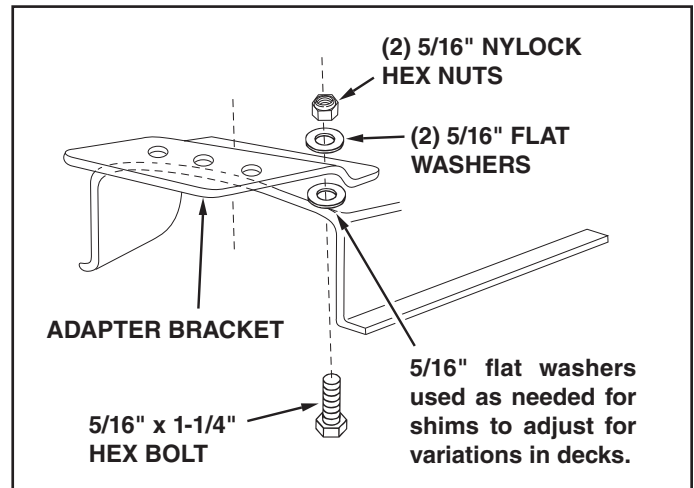

FIGURE 16
7. Assemble the adapter bracket to the deck using two 5/16" x 1" hex bolts, 5/16" flat washers and 5/16" Nylock hex nuts. See figure 16.
NOTE: It may be necessary to use extra 5/16" flat washers to shim under the bracket next to the deck surface. Ten extra washers have been furnished as shims. See figure 16.